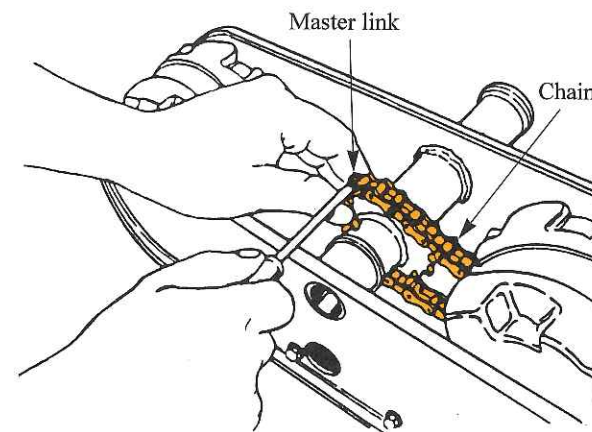
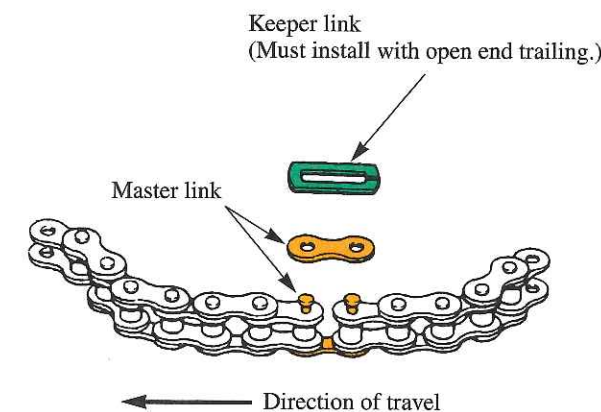

**Figure 20-26.** Removing drive chain by disconnecting the master link with screwdriver. (MTD Products, Inc.)
**Figure 20-27.** Details of a roller chain and master link with keeper. (Simplicity Manufacturing Co.)
4. Remove the chain by disconnecting the master link. See **Figure 20-26**. A master link and chain assembly is shown in **Figure 20-27**. The keeper is pried open with a screwdriver and removed so the link can be removed. The open end of the keeper should trail the direction of rotation of the chain. It is best to replace the keeper on the outer side of the chain so it can be removed more easily.